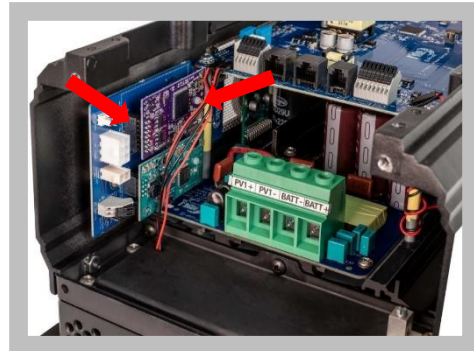

Figure 7
1. The AF/GF sub-board (purple) connects to the top half of the Options Board. (Figure 7)